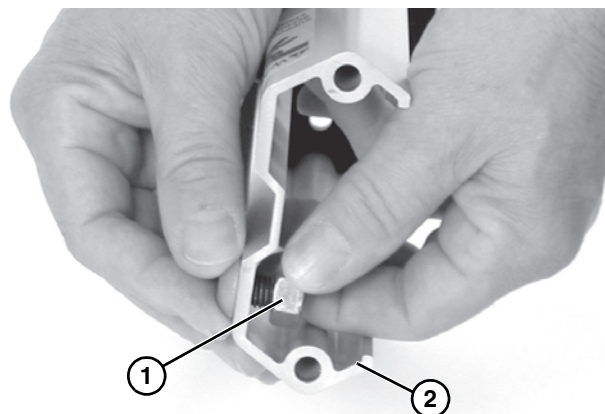

Figure 3
1. Loosen (2) hex nuts (**Figure 3, item 1**) located on boot assembly (**Figure 3, item 2**).